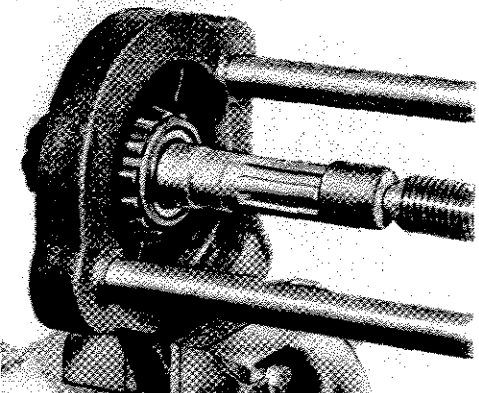

Fig. 17. Using Tool No. TS.1 and Press No. S.4221A to remove pinion head bearing
Remove the shims (26), spacer (24) and extract the pinion head bearing (22) as shown in Fig. 17.